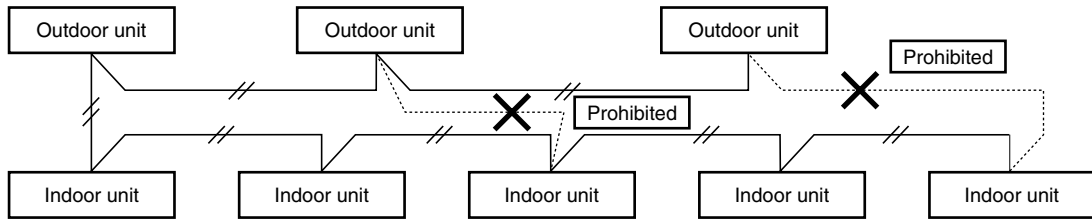

Fig. 5-3
- Do not install the inter-unit control wiring in a way that forms a loop. (Fig. 5-3)